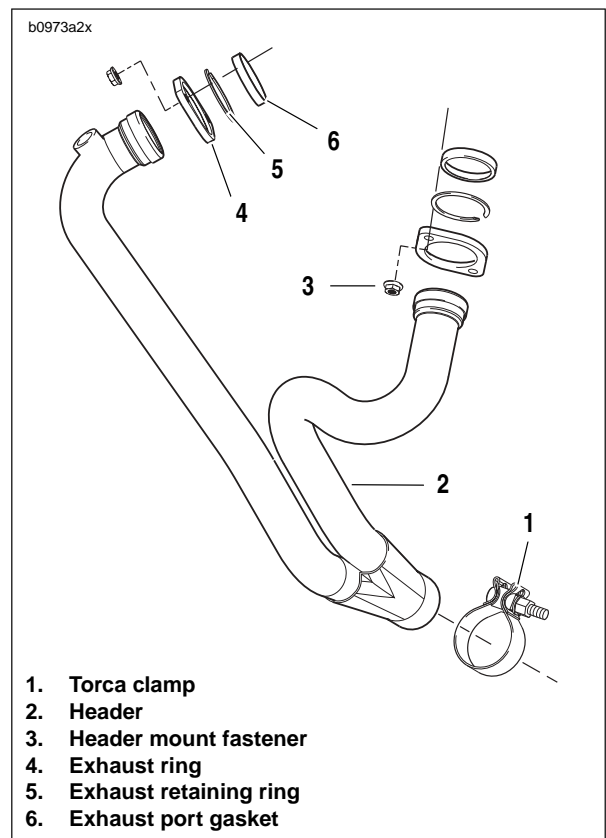

Figure 2-115. Exhaust Header
7. See Figure 2-115. Loosen Torca clamp (1) and lower muffler.
3. See Figure 2-115. Remove exhaust header (2) by removing mounting fasteners (3).
4. Remove exhaust ring (4), retaining ring (5) and port gasket (6).
1. See Figure 2-115. Install exhaust ring (4), retaining ring (5) and **new** port gasket (6).
2. Install exhaust header (2). Tighten mounting fasteners (3) to 72-96 **in-lbs** (8-11 Nm).
5. See Figure 2-115. Tighten the Torca clamp (1) to 28-30 ft-lbs (38-40.6 Nm).